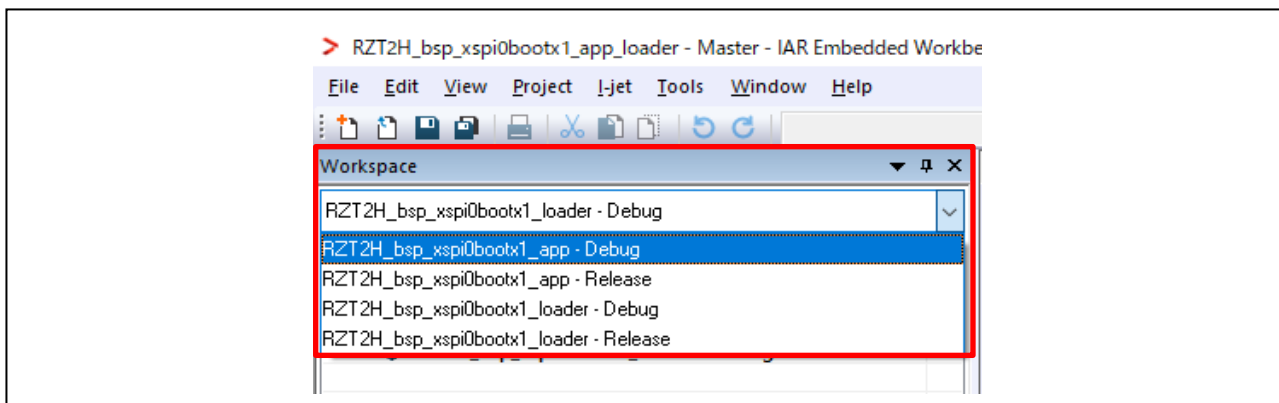

Figure 5-1 Project selection
2. Select "RZT2H\_bsp\_xspi0boot1\_app Debug" project in Workspace box as Figure 5-1.